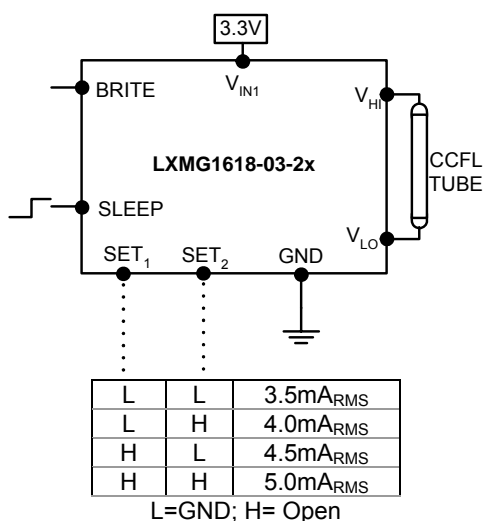

Figure 2 – Max Output Current
- Use the SET₁ and SET₂ (see Figure 2) inputs to select the desired maximum output current. Using these two pins in combination allows the inverter to match a wide variety of panels from different manufacturers. Generally the best lamp lifetime and efficiency correlates with driving the CCFL at the manufactures nominal current setting. However the SET₁ and SET₂ inputs allow the user the flexibility to adjust the current to the maximum allowable output current to increase panel brightness at the expense of some reduced lamp life.